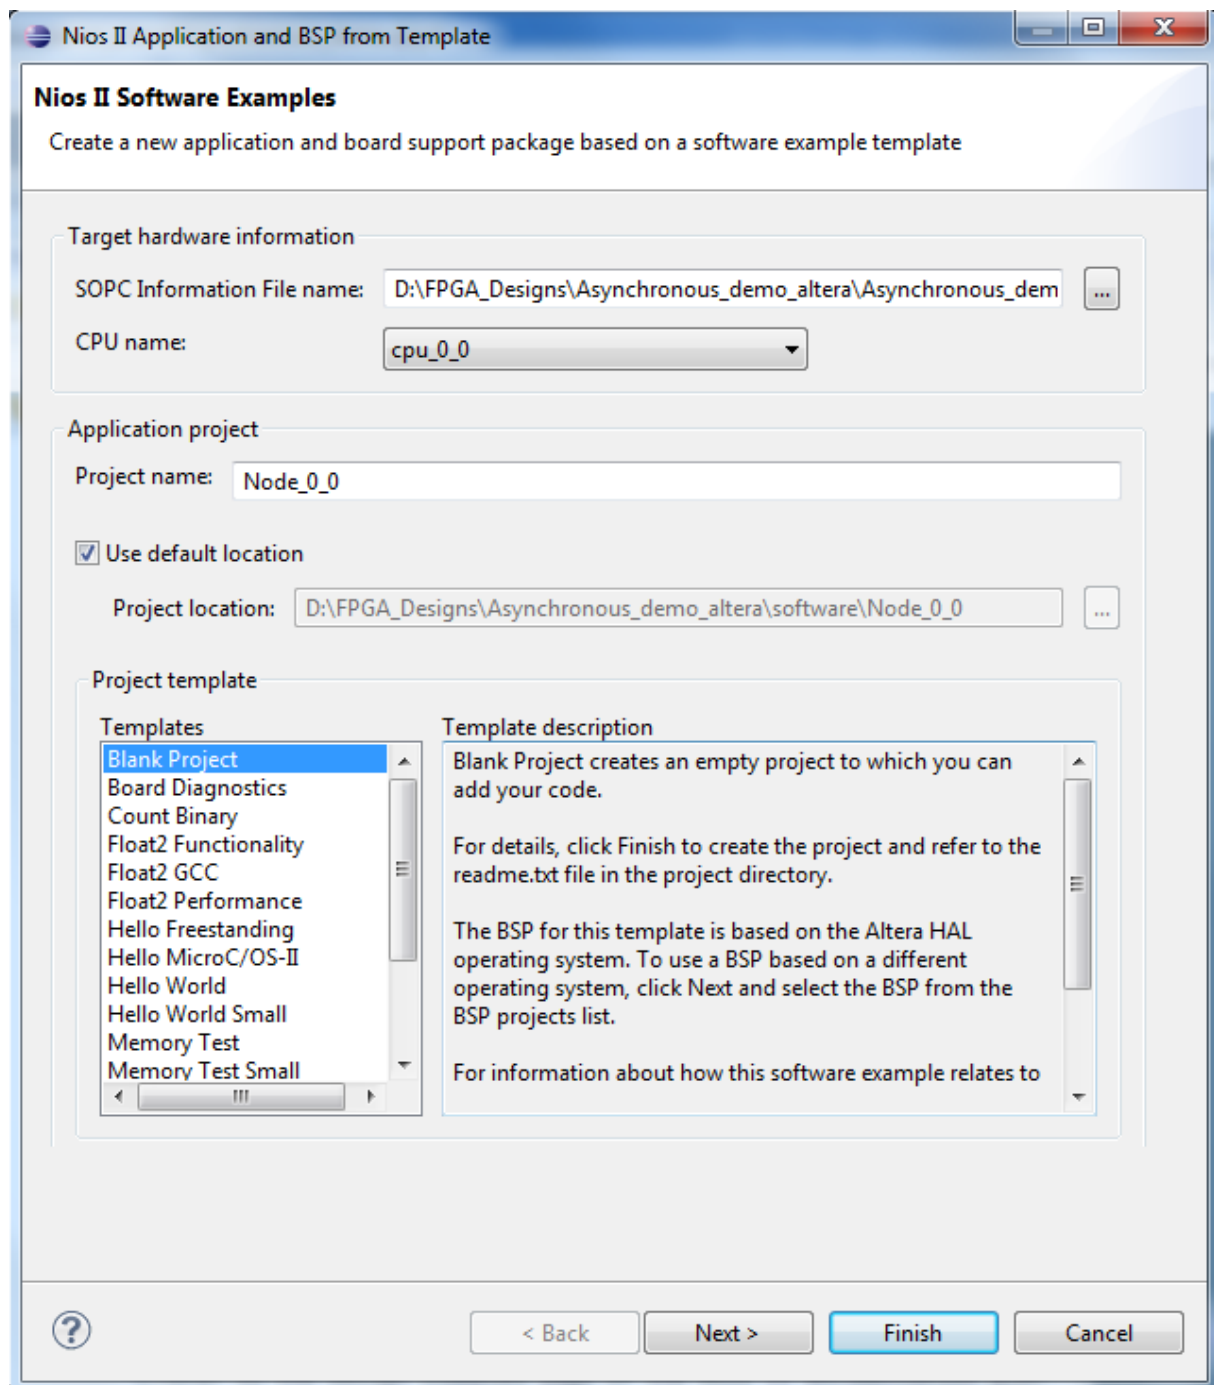

Figure 9.2.2. Eclipse create project menu.
- In Eclipse, start a new application project for every node that you have in the design (select File->New->Nios II Application and BSP from template). Fill in the name of the Project as Node_<node nr>_<cpu nr>. The associated BSP will be named after the project as Node_<node nr>_<cpu nr>_bsp. Select the CPU associated with the node CPU cpu_<node nr>_<cpu nr>. Select an empty template and press finish. The BSP name can be selected if you press <next>, but that can be left at default value. See figure 9.2.2 below. If Eclipse complains that the directory already exists on the disk, you have run the NSG software generation too early. Delete the directories and continue (press next or finish).